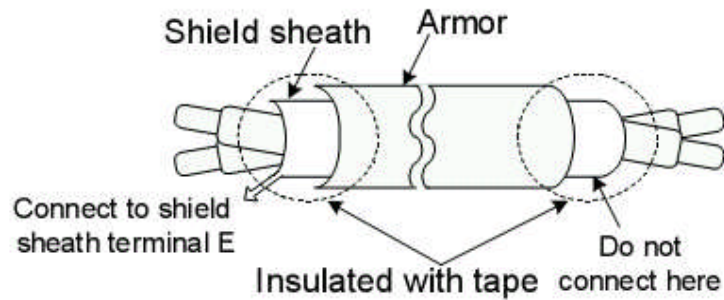

Fig.2-19 Processing the Ends of Twisted-pair Cables
* 5: The terminal ①~⑧ can be set as SINK or SOURCE interface,when setting SINK interface,the short jumper of TP2 must be set to SINK position,and when setting SOURCE interface,the short jumper of TP2 must be set to SOURCE position.
- Use the twisted-pair or shield twisted-pair cables for control circuits to prevent operating faults. Process the cable ends as shown in Fig.2-19. The max. wiring distance should not exceed 50 meter.